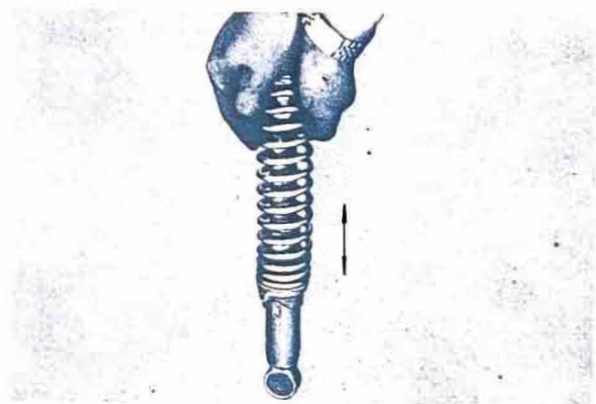

Fig. 5-6-2
2) Compress the shock by applying weight as shown in Fig. 5-6-2, and release it. If the shock quickly restores halfway and then slowly returns to the original position after it reaches 10 mm. (3/8 in.) before the original position, the rear shocks are in good condition.